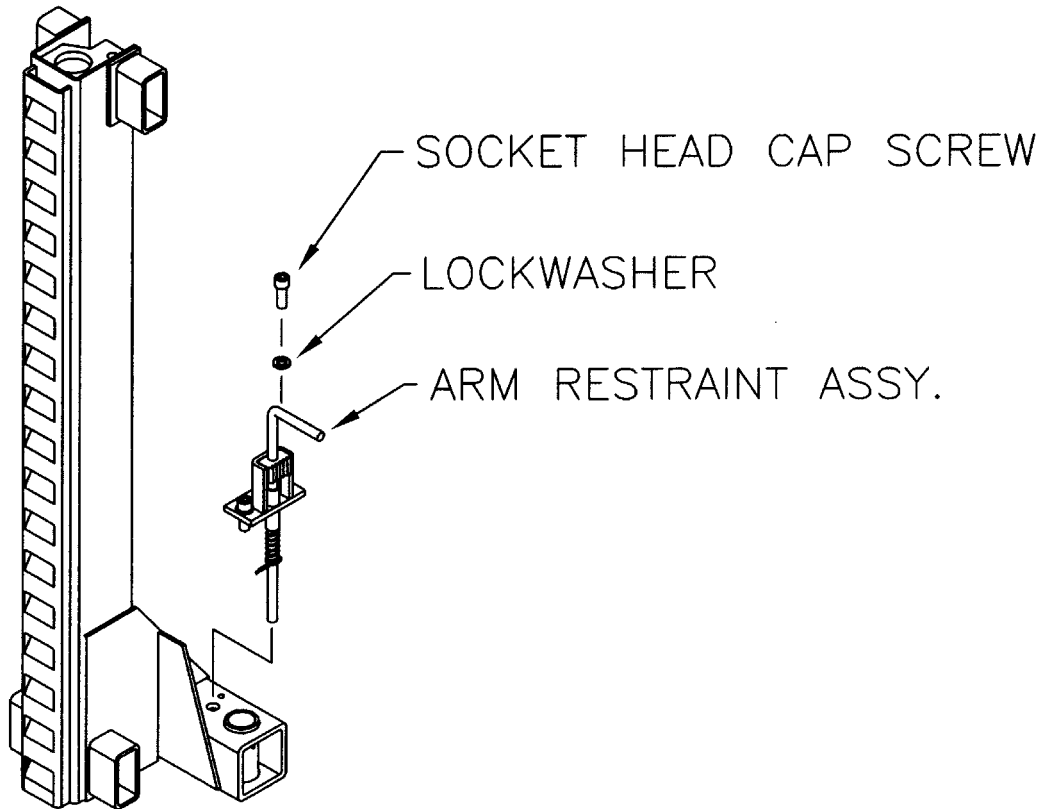

Figure 7 – Arm Restraint Installation
Using two (2) 3/8"-16UNC x 1" LG. socket head cap screws, and two (2) 3/8" ID lockwashers, install the arm restraint assemblies as shown in **Figure 7**. Before tightening completely, make sure that the arm restraint has full contact with the arm restraint gear by pushing it firmly against the arm.